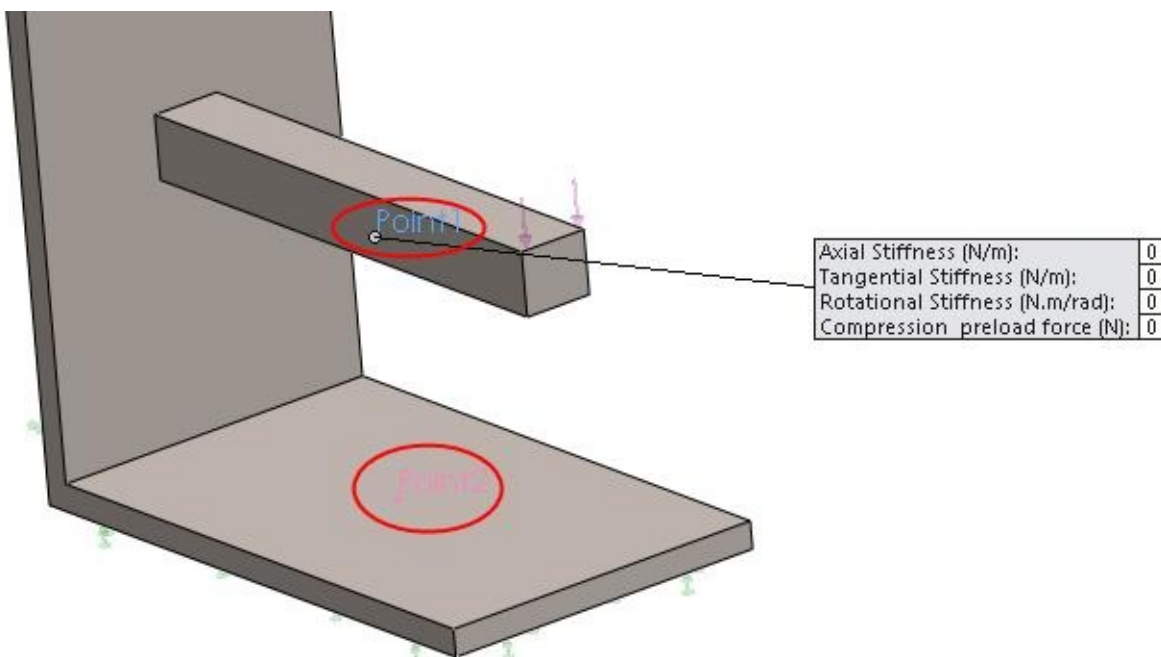

Figure-10. Points to be selected
- One by one select the two points displayed on the model; refer to Figure-10. Make sure that you have selected the **View Points** button from the **Heads-up View Toolbar**.